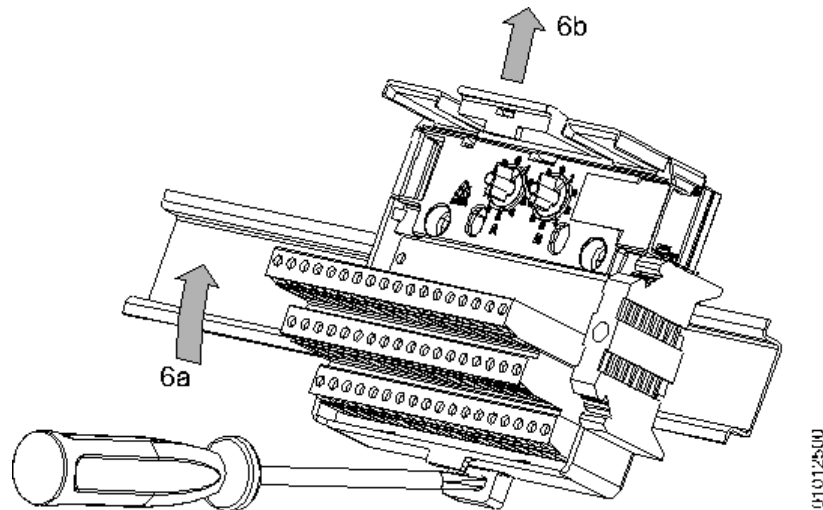

Figure 26: Removing Pontos Series bases
3. With a screwdriver, release the lock that holds the base to the rail, turning the base to the outside direction of the rail (6a) and sliding the base, removing it from the rail (6b), as shown in the Figure 26;